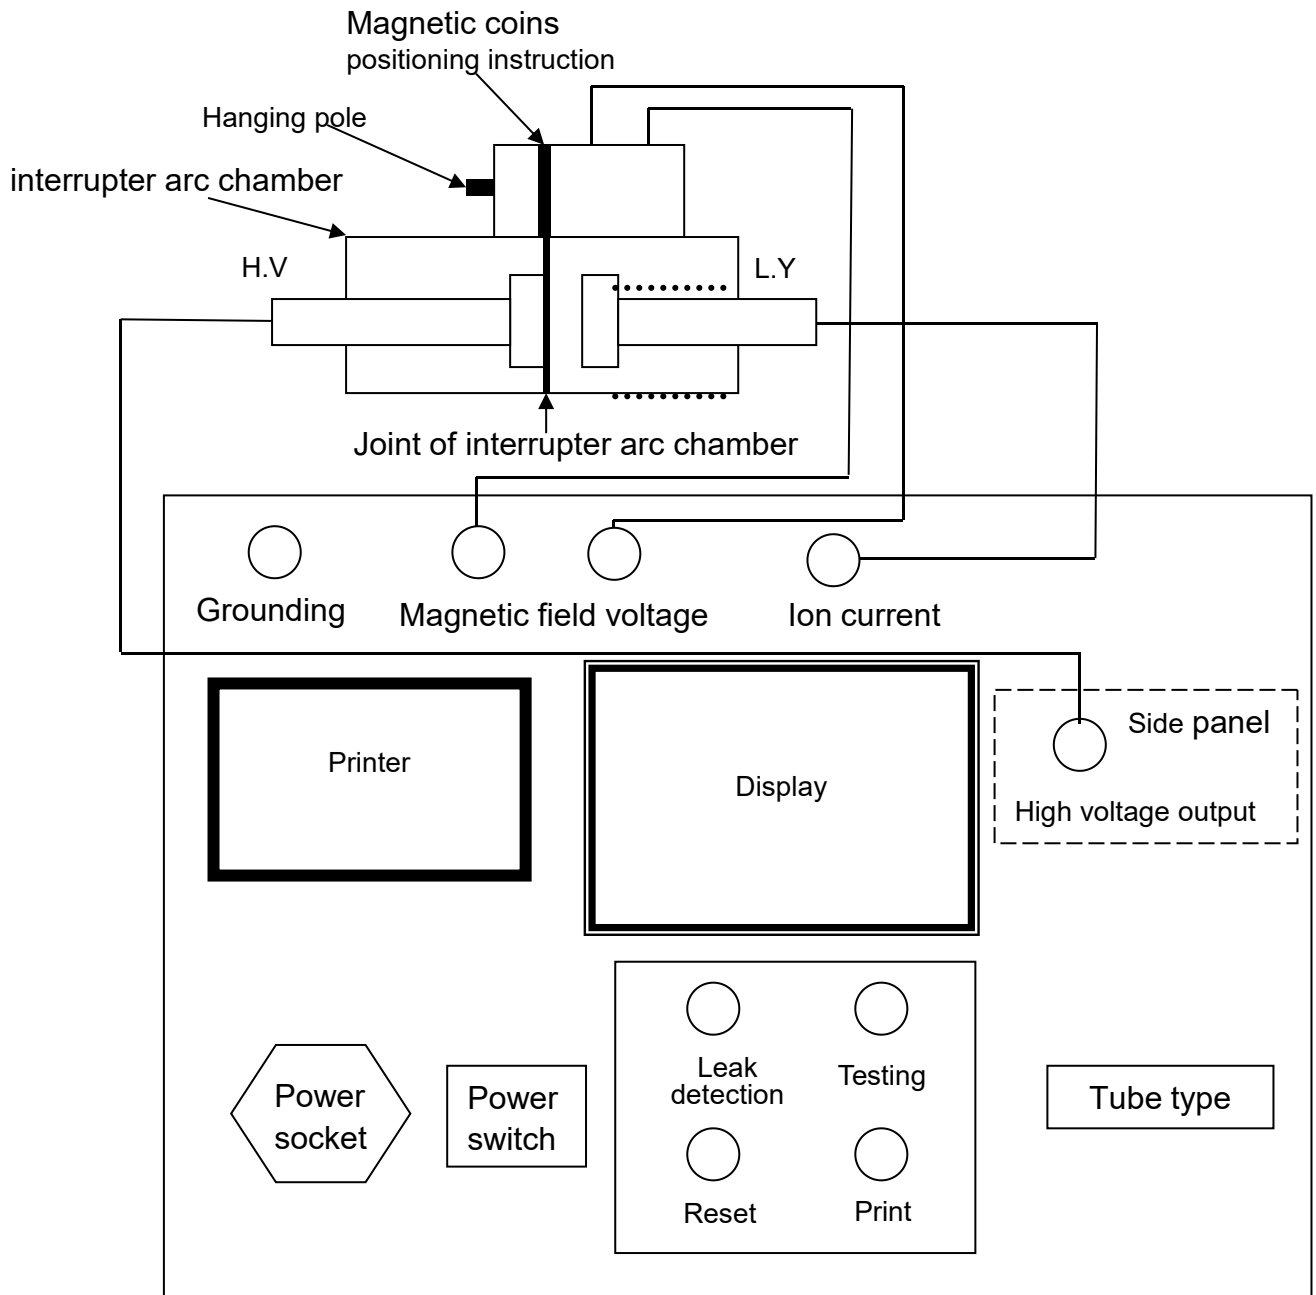

Figure 2. vacuum switch
The instrument panel is shown in Figure 2. The leak detection key is used to preliminarily judge the vacuum degree of the vacuum tube, and the measurement key is used to apply high voltage and strong electromagnetic field to quantitatively test the vacuum degree of the vacuum tube. There is a high-voltage output terminal on the side of the instrument, which can be connected to a contact of the vacuum tube with a high-voltage wire. The ion current input terminal is connected to another contact of the vacuum tube. The two output terminals of the field voltage shall be connected to the two terminals of the excitation coil. The grounding terminal is used for the protective grounding of the instrument housing. The tube type input dial switch is used to input the tube type of the arc-extinguishing chamber. The tube type of the arc-extinguishing chamber is directly determined by the arc-extinguishing chamber, and the diameter of the outer cover shall prevail if the outer cover is provided.
4. Then hang the excitation coil as shown in Figure 2, align the white scale line with the middle position of the vacuum circuit breaker, and tie the electromagnet and vacuum circuit breaker tightly with a bandage (pulse voltage will produce impact force during the test to avoid damage and crack of the vacuum circuit breaker).